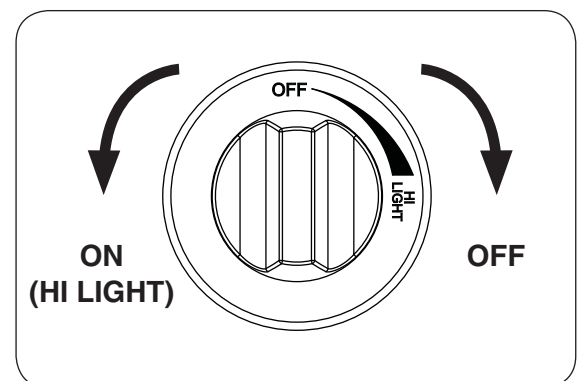

Fig. 37-2
4. **Once the match is burning and in position**, depress the gas control knob and turn it counter-clockwise to the **HI LIGHT** position (see Fig. 37-2). Your burner should light.
**WARNING:** If the burner does not light within five (5) seconds of turning the control knob, immediately depress the control knob and turn clockwise to the **OFF** position.
**To extinguish your gas burner**, depress the gas control knob and turn it clockwise to the **OFF** position (see Fig. 37-2). Be sure the control knob is turned fully off to avoid any gas leakage.